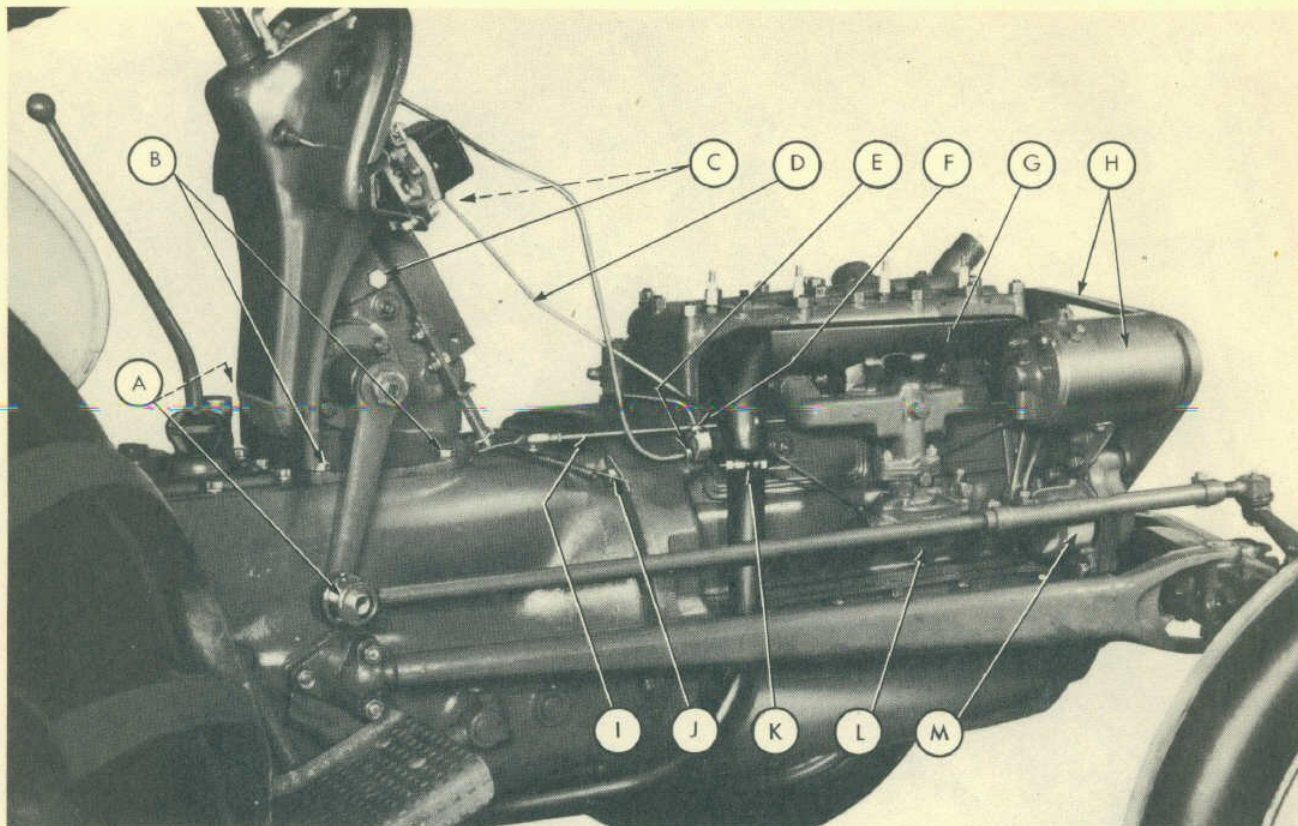
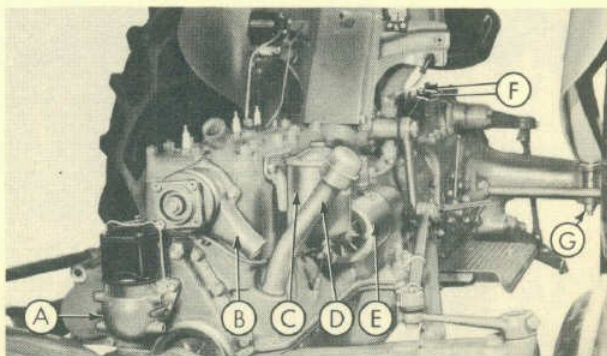

Fig. 7
Fig. 8
- Step 1—Remove the generator and fan belt (H-Figure 7).
- Step 2—Remove throttle rod (I-Figure 7).
- Step 3—Remove the choke rod (D-Figure 7).
- Step 4—Remove the carburetor (L-Figure 7).
- Step 5—Loosen clamp (K-Figure 7) and remove the muffler and tail pipe assembly.
- Step 6—Remove the manifold and gaskets (G-Figure 7).
- Step 7—Disconnect the oil line and remove the governor (M-Figure 7).
- Step 8—Remove the water pump (B-Figure 8).
- Step 9—Remove the distributor assembly (A-Figure 8).
- Step 10—Remove the filler pipe (D-Figure 8).
- Step 11—Remove the oil filter (C-Figure 8). Disconnect the oil line at junction. (F-Figure 7) on right side of block.
- Step 12—Remove the starter and relay assembly (E-Figure 8).
- Step 1—Disconnect the oil line at fitting (E-Figure 7).
- Step 2—Disconnect the governor compensating spring (J-Figure 7).
- Step 3—Remove the two cap screws (C-Figure 7) that hold the instrument panel to the right and left side of the steering post housing.
- Step 1—Disconnect the tie rods from the right and left sector arms (A-Figure 7).
- Step 2—Remove the two cap screws (B-Figure 7) on the right and left side that hold the steering housing to the transmission housing.
- Step 4—Remove the two hex nuts (F-Figure 8) and remove the seat.
- Step 5—Remove the bolts (G-Figure 8) which hold the right and left fenders in place and lift the fenders off.